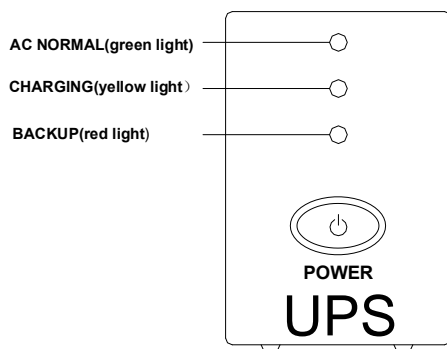

Figure 8 (LED display mode 1)
■ **Operating by the LED display mode 1 ((Reference the figure 8):**